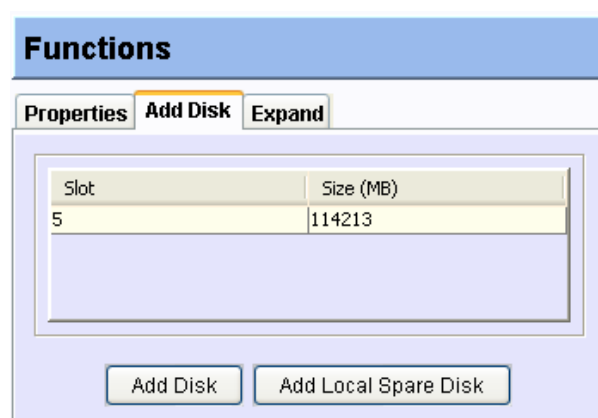

Fig. 9.10 The “Add Spare Drive” Button
1. Select the logical drive to which you wish to add a dedicated spare from the list of the logical drives above. In the Functions window, click the *Add Disk* tab. The functional window is accessed from the Existing Logical Drives window as shown in *Figure 9.10*, the Add Spare button appears next to the Add Disk button.